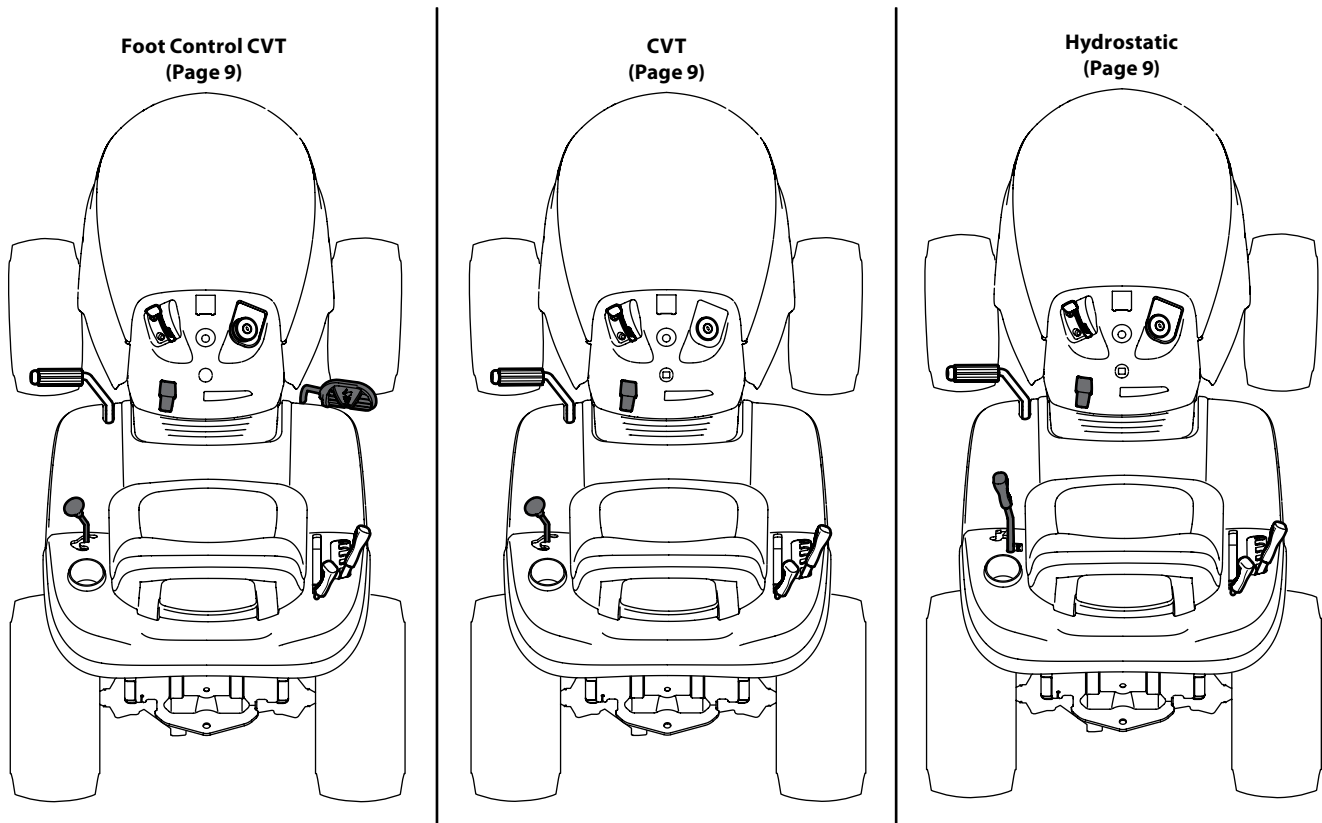

Figure 2-1
**NOTE:** This Operator's Manual covers several models. Features may vary by model. Not all features in this manual are applicable to all models and the model depicted may differ from yours. Refer to Figure 2-1 to match your transmission style; Foot Control CVT (Continuously Variable Transmission), CVT (Continuously Variable Transmission) or Hydrostatic.
Refer to Figure 2-1 and proceed to your applicable model for your gas tank.